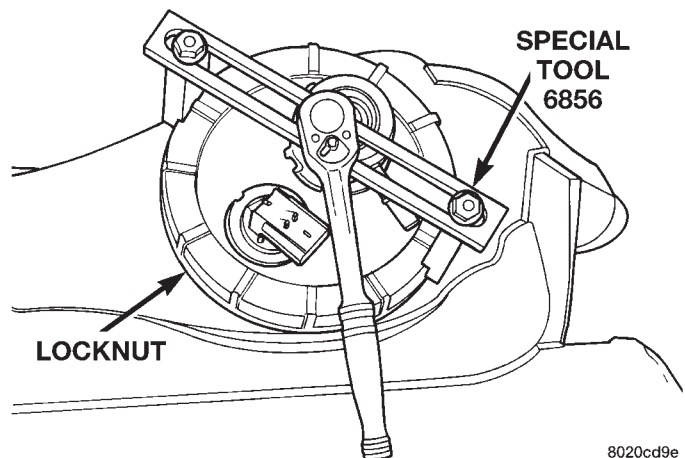

Fig. 49 Fuel Reservoir Module Lock Nut Removal
(9) Using Special Tool 6856, remove plastic locknut counterclockwise to release pump module (Fig. 49).